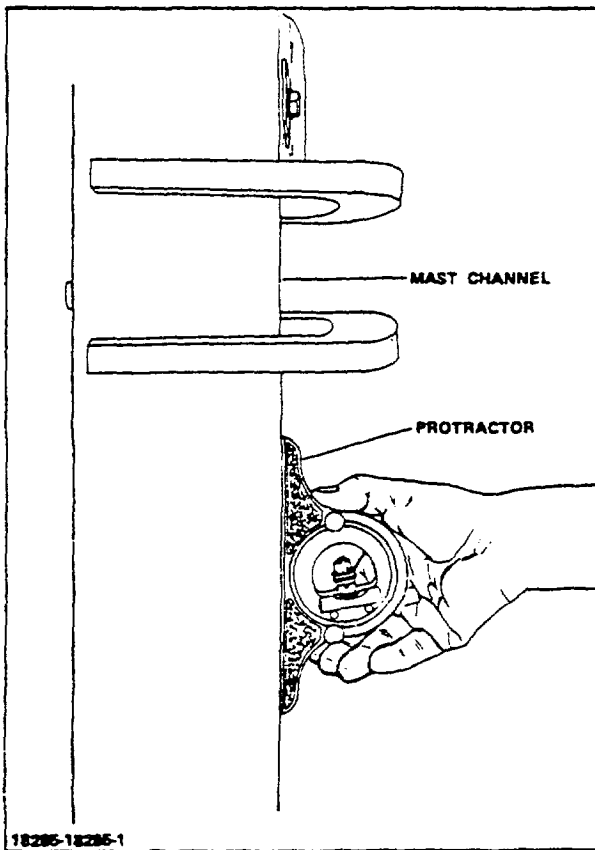

Figure 8-4. Checking Forward and Backward Tilt
1. Set the protractor for correct degrees of backward tilt. Tilt mast to end of backward stroke and place protractor on back of mast (Fig 8-4).